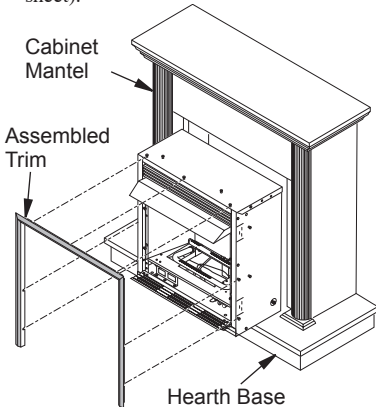

Figure 13 - Installing Fireplace into Mantel Assembly
10. Carefully insert fireplace into cabinet mantel (see Figure 13, page 13). Be careful not to scratch or damage hearth base or cabinet mantel.